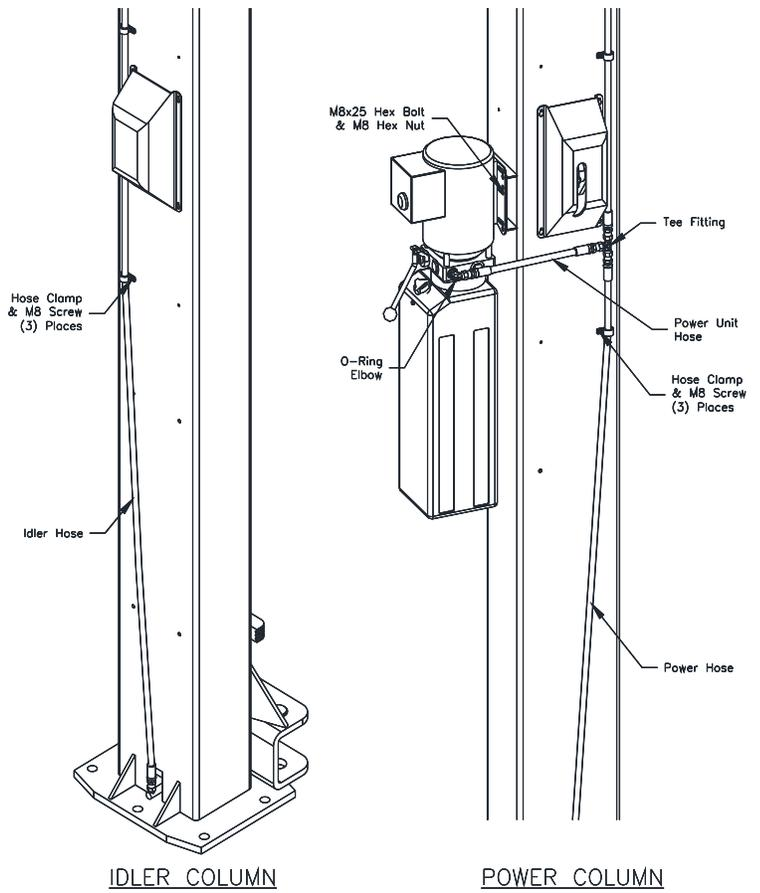

Fig. 7 – Hose Routing
- 22) Mount Power Unit to power column as shown in **Fig 7** using (4) M8 hex bolts and nuts.
- 27) Route the power hose from the cylinder elbow fitting to the union tee provided. Connect idler hose and power unit hose to union tee as shown in **Fig 7**.
- 28) Use hose clamps and M8 Screws to secure hydraulic hoses as shown in **Figure 7**.